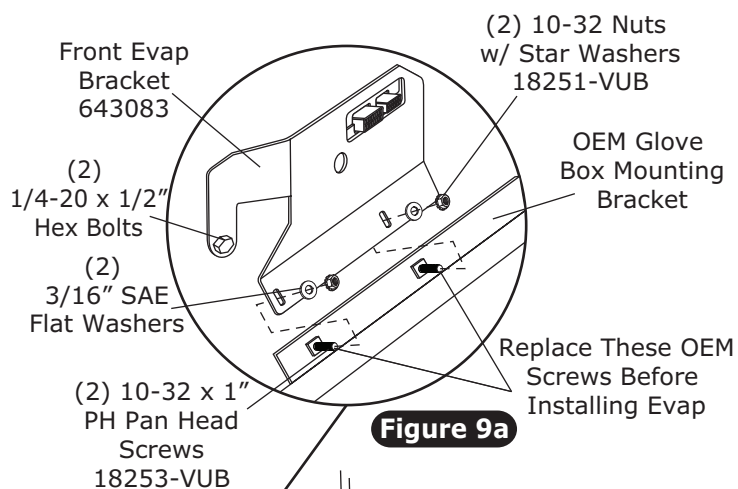
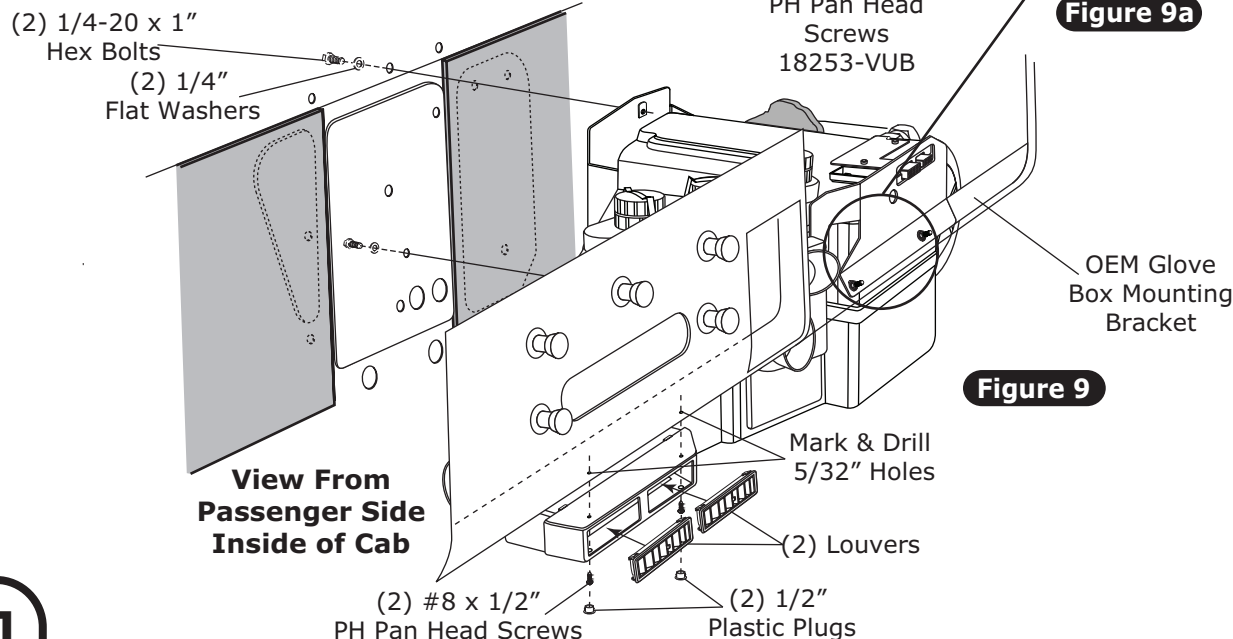

Figure 9a
Figure 9
1. Lift evaporator unit up under the dashboard. Secure loosely to the firewall using (2) 1/4-20 x 1" hex bolts and (2) flat washers (See Figure 9, below).
3. Install evaporator front bracket on evaporator using (2) 1/4-20 x 1/2" hex bolts, and tighten as shown in Figure 9, below.
4. Remove & replace OEM screws in glove box mounting brackets. Replace with (2) 10-32 x 1" PH pan head screws.
5. Secure the front evaporator mounting bracket to the OEM glove box mounting bracket using (2) 3/16" SAE flat washers and (2) 10-32 nuts with star washers. (See Figure 9a, below).
6. Using center louver A/C plenum assembly as a guide, mark and drill (2) 5/32" holes in dash bottom (See Figure 9, below).
7. Secure evaporator plenum ASM to dash using (2) #8 x 1/2" PH pan head screws, and install (2) 1/2" plastic plugs in holes as shown in Figure 9, below.
8. Install louvers in evaporator plenum ASM as shown in Figure 9, below.